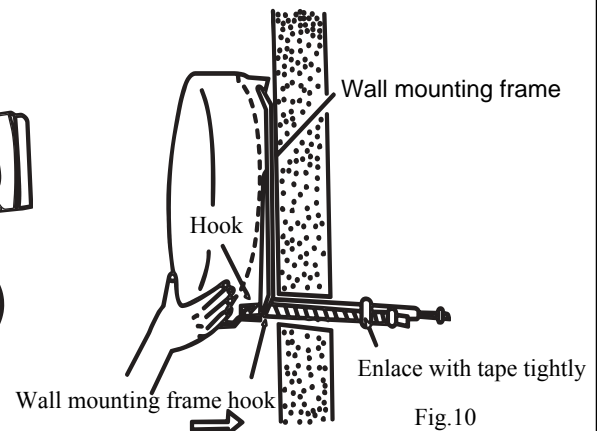

Fig.10
- To hang the indoor unit's rear claw on the wall mounting frame hook, to press the bottom of the indoor unit, to make the hook of rear case clasp the wall mounting frame hook tightly, move the unit body left and right to check whether it is firmed or not, as shown in Fig.8, Fig.10.